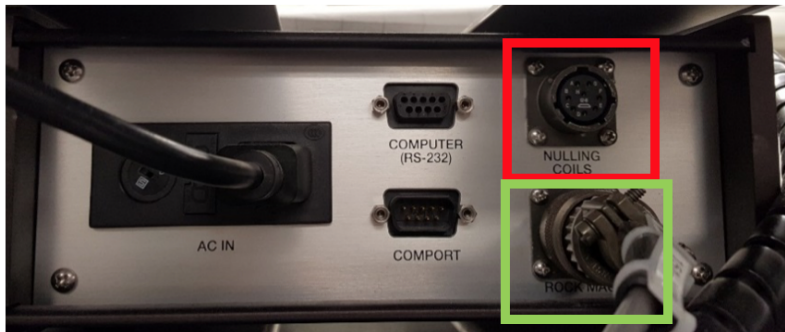

Figure A7: Back of the Model 202 Control Monitor. Note the Nulling Coils Connector in the red box.
3. Connect the nulling cable to the back of the Model 202 Control Monitor and to the ports near the junction between the measurement region and the degauss region (Figures A7 and A8)